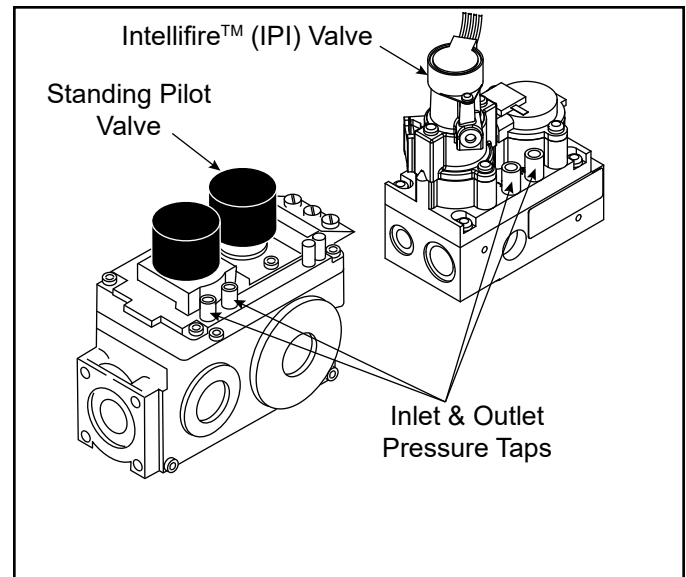

Figure 7.4 Pressure Taps
1. Turn captured screw counterclockwise two or three turns. See Figure 7.4.